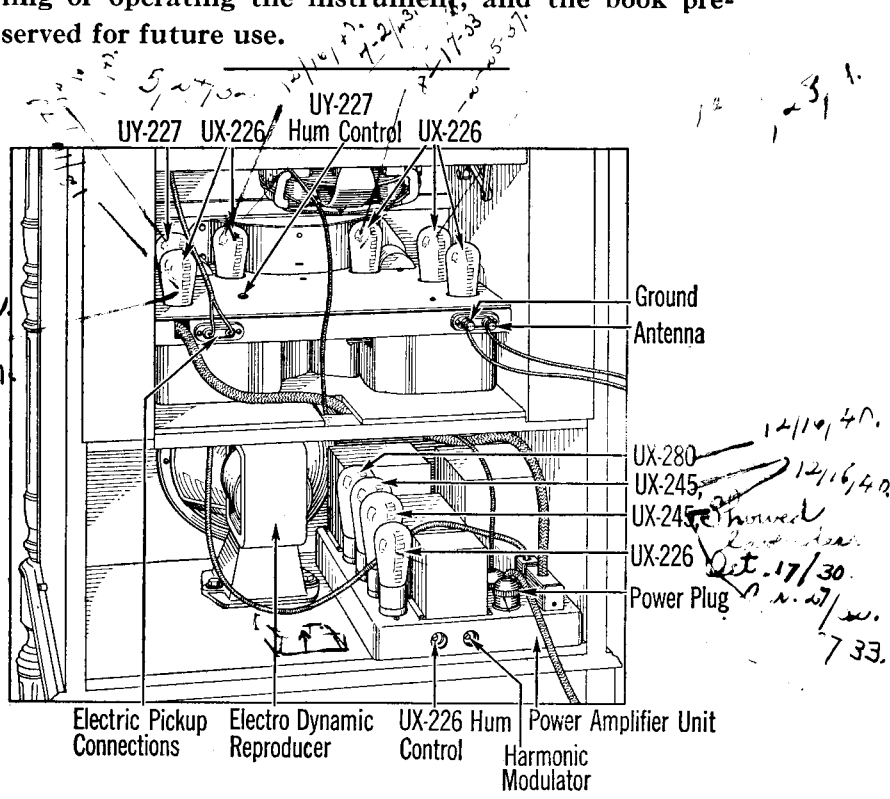
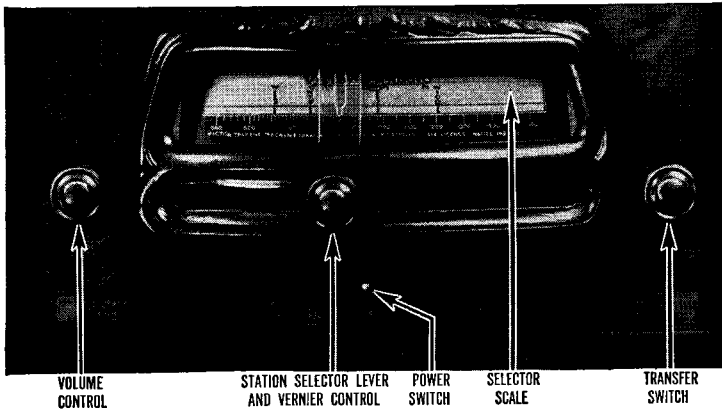

Fig. 1—Back View of Instrument, Showing Location of Radiotrons in Radio and Power-Amplifier Units.
Fig. 2—Radio Panel
3. Installing Radiotrons—Referring to Fig. 1, insert the UY-227 and the UX-226 Radiotrons in their sockets in the radio set as shown. Insert the additional Radiotrons in the power-amplifier unit as shown at the bottom of Fig. 1.
6. Connections to Power Supply—Connect one end of the power supply cord to the power-amplifier unit attachment plug, (see Fig. 1) and the other end of this cord to a lamp socket or any other convenient electrical outlet of the proper rating. *Never connect the power cord to a direct current circuit, or to an alternating current circuit of any rating except 105 to 120 volts, 50 to 60 cycles.** If there is any doubt about the power rating, consult your local Electric Light and Power Company.
Turn the power switch, shown in Fig. 2, to the right, and note that all Radiotrons are lighted. The UY-227 Radiotron will light brightly only near the top, while the other Radiotrons will light with a dull glow. When certain that all the Radiotrons light properly, place the metal cover, furnished in the outfit package of the instruments with Electrola, over the UY-227 Radiotron, forcing the cover into the UY-227 opening in the metal panel.
7. Adjusting Hum Controls—With the power still turned on, place the transfer switch, shown in Fig. 2, in the record position to the right. With a small screw driver, turn the UX-226 hum control in the power-amplifier unit, shown in Fig. 1, slightly in either direction as required until the hum of the instrument is a minimum. Turn the transfer switch to the left to the radio position and also turn the radio volume control to the left. With a small screw driver, turn the UY-227 hum control in the radio set (see Fig 1) to the right or left as required until the hum is a minimum.
9. Harmonic Modulator—The harmonic modulator, which controls emphasis on the bass section of the scale, can be regulated to suit individual preference or the acoustic qualities of an unusual room. This control, shown in Fig. 1, is set in the factory for the best reproduction over the entire musical range, and should not ordinarily require further
Referring to Fig. 2 for location of the controls:
The positions on the selector scale at which different stations are received can be marked on the light space provided if desired. The slot on the indicator is so shaped that the scale can be accurately marked with a soft lead pencil to ensure ease of erasure. It will be noted that the scale is calibrated directly in kilocycles, so that the low frequency stations (high wave length) will be received toward the left end and the high frequency stations (low wave length) toward the right end of the scale. A short line should be placed opposite the scale calibration at which the station is received, and the station call letters then marked vertically as shown in Fig. 2.
Referring to Figs. 2 and 3 for the location of the controls